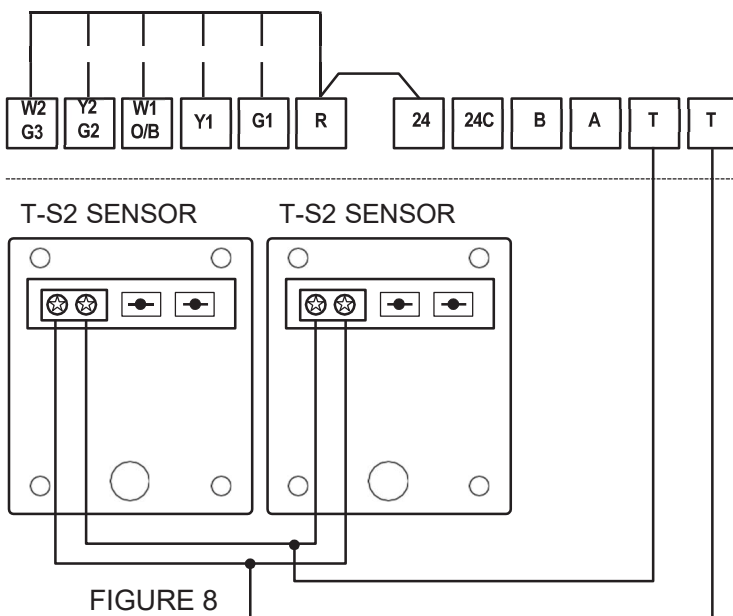

FIGURE 8
Multiple sensors can be connected to the 'T' and 'T' terminals if temperature averaging is required with or without the sensor in the thermostat. The total value of remote sensors wired in series/parallel must equal 10kΩ @ 77° F. The onboard sensor is not part of the equation. Figure 8 shows (2) T-S2 sensors used for averaging.